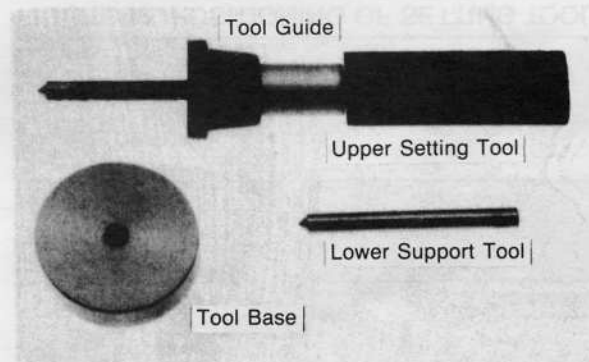

FIGURE 11. TOOL GUIDE AND SETTING TOOL
STEP 9—Slide the PACE Tool Guide (Advanced and Master Kits only) into the Setting Tool (see Figure 11). (**NOTE:** Steps 7 and 8 are suggested methods, you may vary to suit your personal requirements).